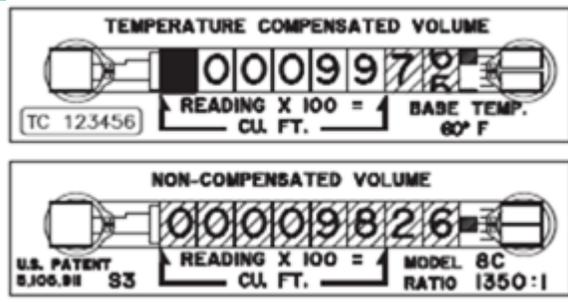

Figure 158: Reading of 9756 for the TC Unit Operational Check
3. Observe the Temperature Compensated volume odometer. When the odometer stops turning after an intermittent compensating cycle, record the last three-digit reading (Ci) indicated on the odometer and the value indicated by the graduated marks on the test wheel. Read this value as a whole number (refer to Figure 158 to see a reading example).
For example: Assume the gas temperature is 53.0°F, and the initial odometer reading (Ci) is 9756 (refer to Figure 158). Allow the odometer to cycle 25 times, and then record a final odometer reading (Cf) of 12295.